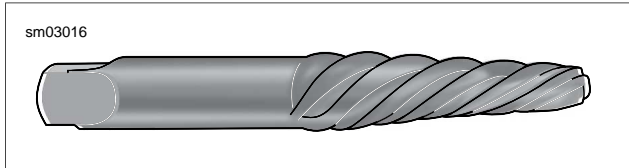

Figure 7-12. Screw Extractor
- See Figure 7-12. and Figure 7-16. With access door on end (shafts pointing upward), remove shift fork shafts using easy-out twist extractor (non-flute design). Shafts have slight interference fit. Shafts can be reused, do not damage end of shaft. Mark end of shaft so same end can be reinserted during reassembly.